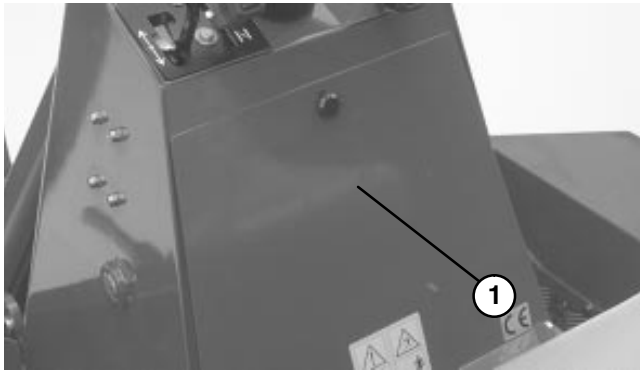

Figure 34
2. Remove access panel from rear of tower (Fig. 34).